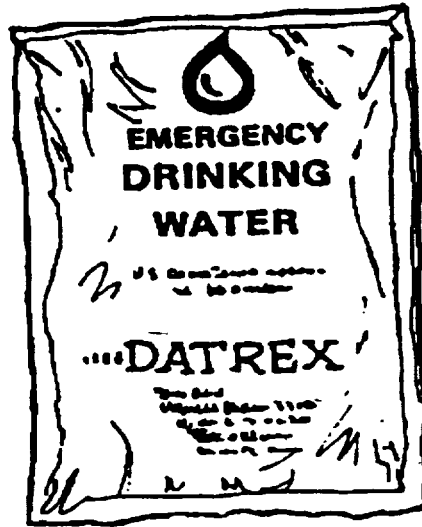

Figure 2-3. Emergency Water Packets
- c. Emergency Water Packet. The survival drinking water packet is to be used after the crash. During survival conditions, conserve water and find other means to obtain drinkable water (i.e., using the solar still or mechanical reverse osmosis device). See Figure 2-3.